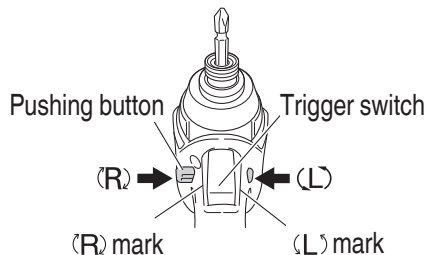

Fig. 9
The L-side of the pushing button is pushed to turn the bit counterclockwise (See Fig. 9) (The (L) and (R) marks are provided on the body).